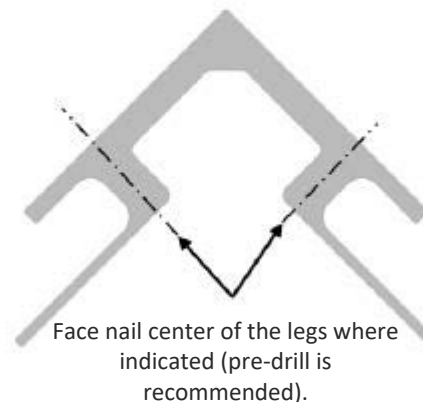

Fig. 3
1. Use 8d nails or 3" galvanized finishing nails. Space nails 8" to 12" apart. Counter sink nails 1/16" below the surface of the outside corner post. Nails should penetrate the structural sheathing at least 1" (Fig. 3). To conceal nail holes, use a sealant or epoxy. Cortex screws and plugs can also be used.